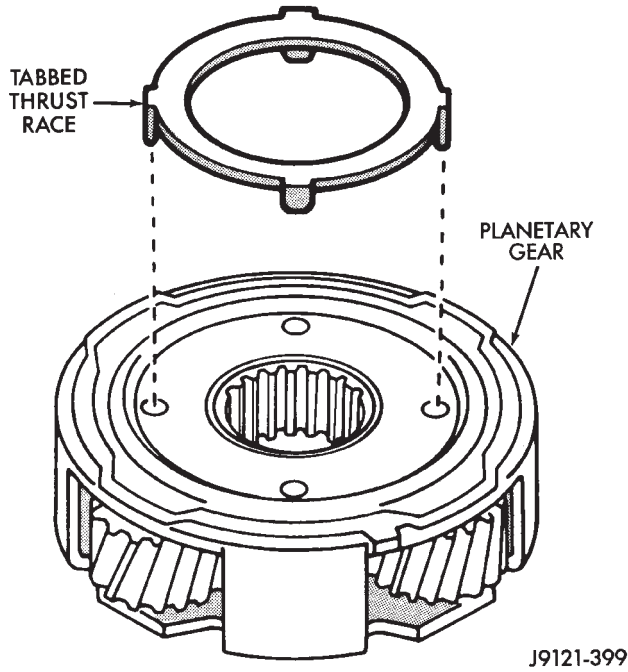

Fig. 258 Front Planetary Thrust Race Installation
(4) Turn planetary over and install thrust race (Fig. 258).